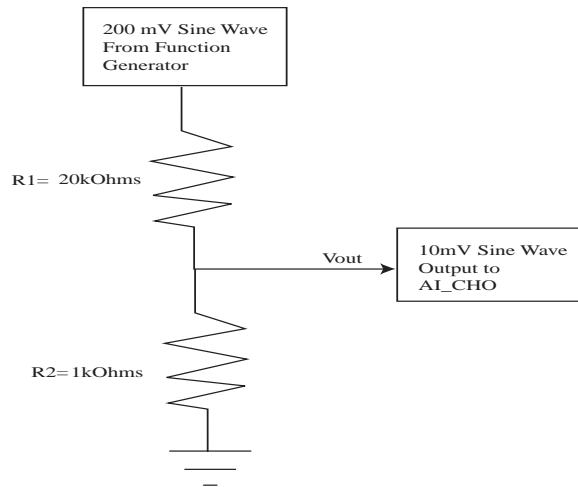

Figure 1: Voltage Divider Circuit to Scale Down Sine Wave From Function Generator
5. Repeat exercise steps 1-4 using a 20 Hz, ± 10 mV sine wave (sample rate of 200 Hz and number of samples between 40-50). The function generators are not capable of a 10mV signal, so a voltage divider circuit is required to properly scale down the sine wave. Turn the "Amplitude" knob on the function generator so that you get the smallest output. Connect the output from the function generator to the voltage divider circuit shown in Figure 1. Ask your TA for help if you have trouble. Run the program